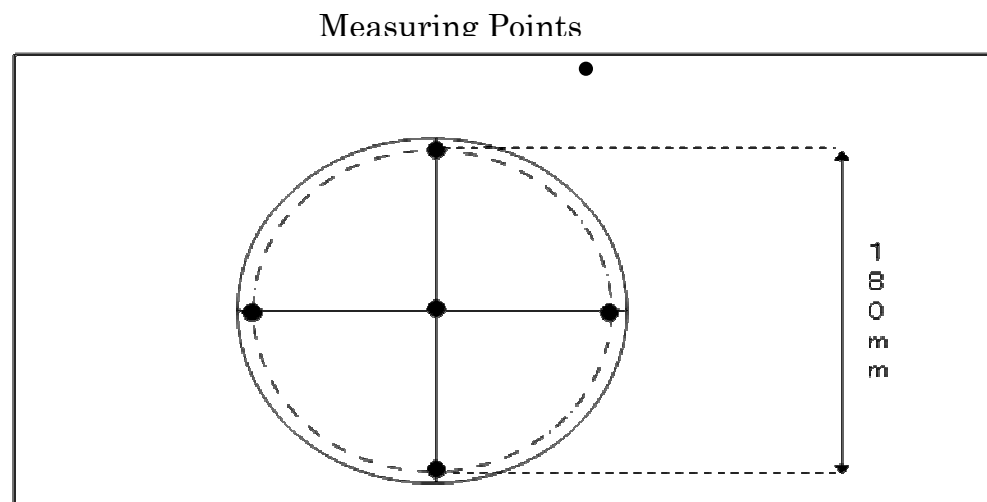

Figure 4. Measuring point for heating performance
D. The temperature uniformity shall be measured at the 9 points shown in Figure.4.
- D. The temperature uniformity shall be measured at the 9 points shown in Figure.4.